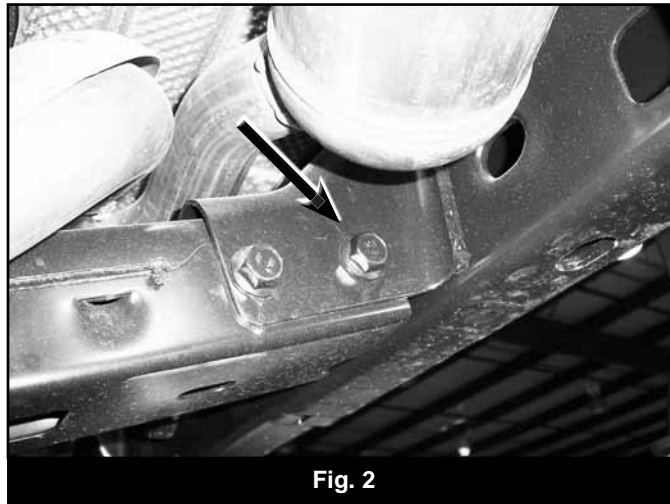

Fig. 2
4. Remove the outer transmission crossmember mounting bolt on each end of the crossmember (Fig 2). Retain the mounting hardware.